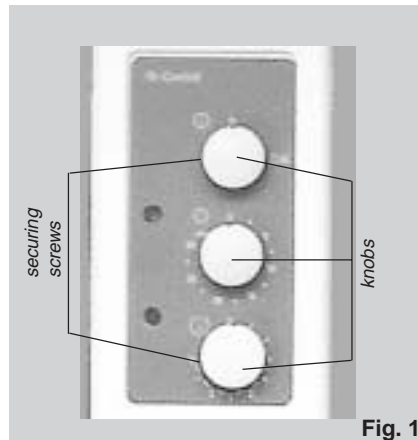

Fig. 1
- To do this, lightly pull the knobs off the switch elements and remove the 2 fixing screws (Fig. 1) are removed.